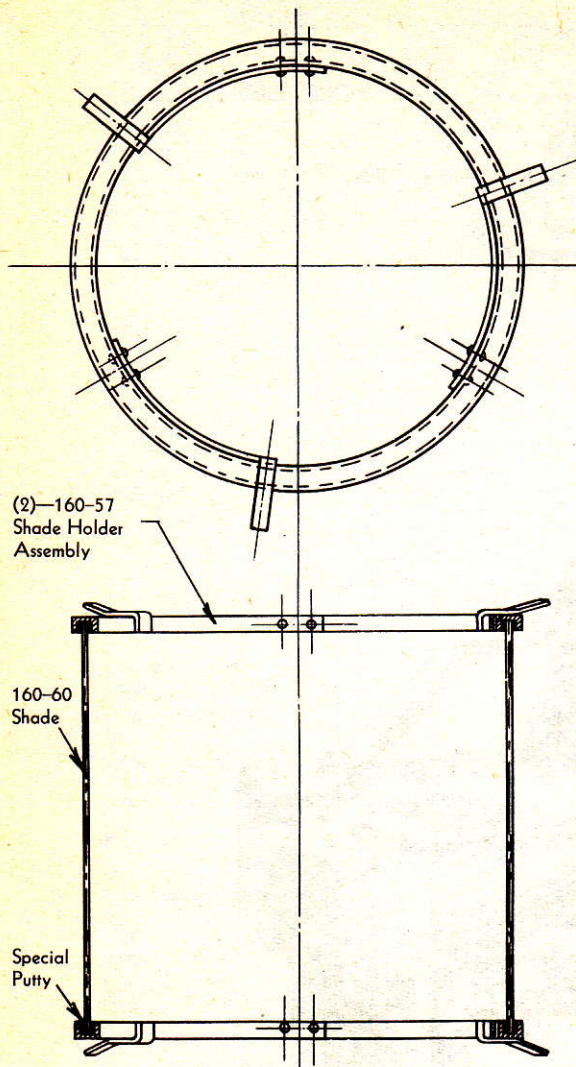

FIGURE 20-24.—Shade assembly for direct attachment to 200-mm. lens (USLHS type C).
C. 200-mm. lantern, Service-type.—The colored shade used in this lantern is commonly known as Type "C" and is about 6 inches in diameter and 5 inches high. Shallow brass spun rings, equipped with flat spring fingers, are fitted to the top and bottom of this shade, being secured with putty. The shade is placed inside of the lens and held in place by the tension of the spring fingers (see fig. 20-24). This type shade, without the flat springs mentioned above, is also used in the Service-type 300-mm. lanterns.